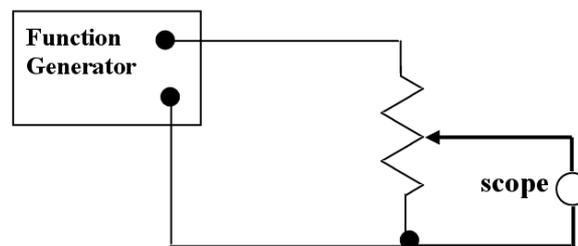

Figure 1: AC level control.
2. *AC level control:* Use a potentiometer to attenuate an AC signal as shown in Fig. 1. This is the essence of an audio volume control. Use two inputs: channel 1 for the input from the function generator and channel two for the attenuated output. Paste a copy of the display with output attenuated by a factor of two into your notebook.